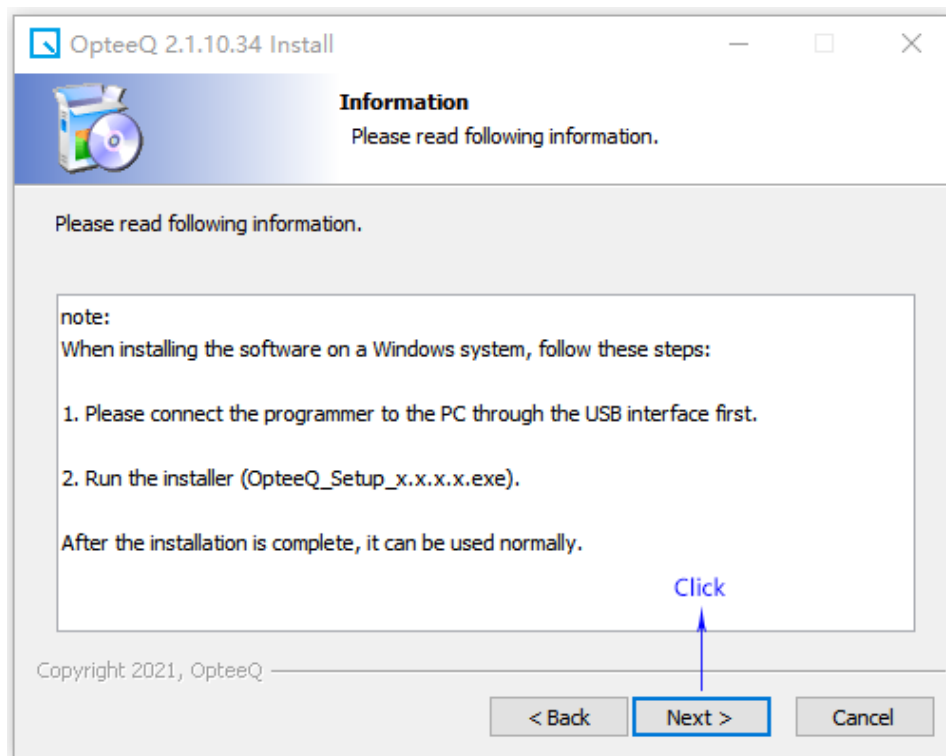

Figure 1.4: Step 4
Step 4: Click "Next" in the pop-up interface, as shown in Figure 1.4.